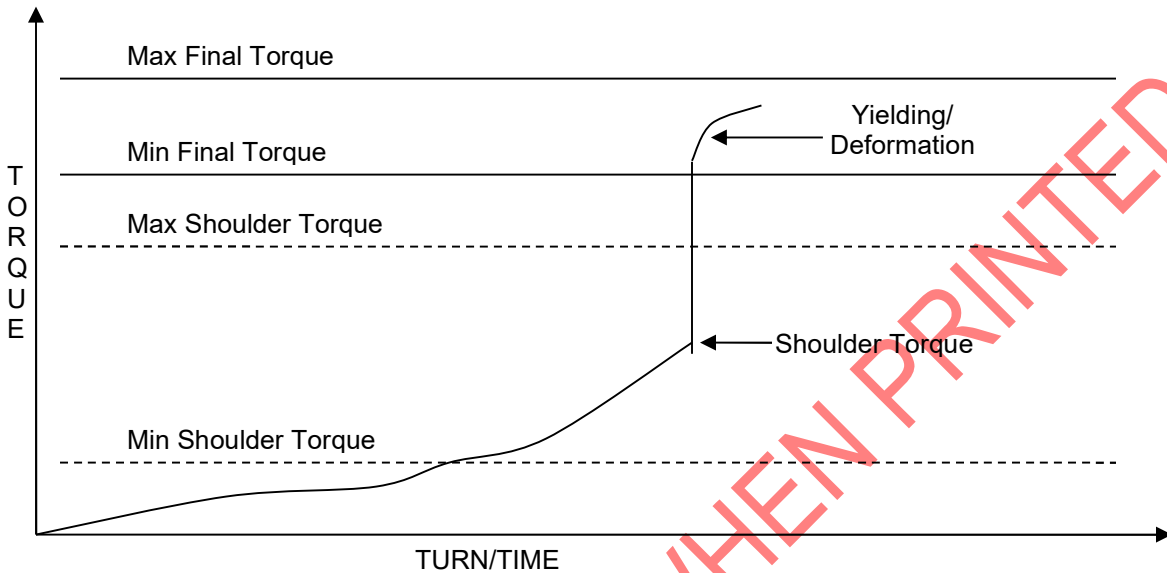

Figure 5: Yielding/deformation prior to final torque (Connection shall be rejected)
- 8.1.2.4.** Yielding or deformation indications prior to final torque release (figure 5). A connection with this signature shall be broken out and the pin and box connection shall be rejected.